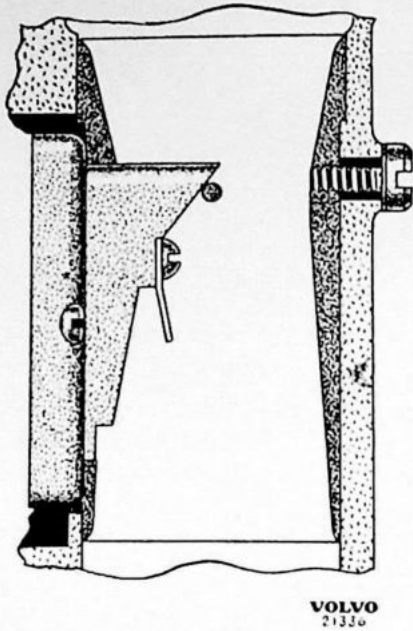

Fig. 96.
9. Check that the cross member in the carburetor throat bears against the emulsion block nozzle, Fig. 96. If necessary, loosen screw and press throat insert upwards, then retighten screw.